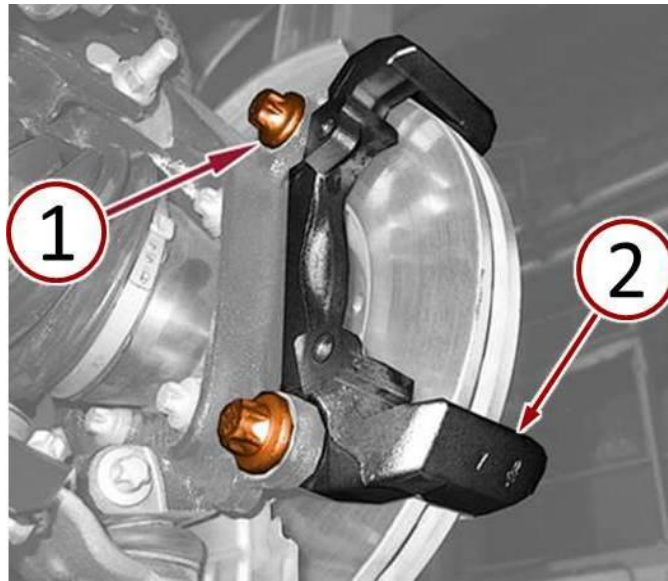

Fig. 3 Remove Brake Caliper Adaptor Bracket
7. Remove the brake caliper adaptor to front steering knuckle bolts (1) (Fig. 3).
8. Remove the brake caliper adaptor bracket (2) (Fig. 3).